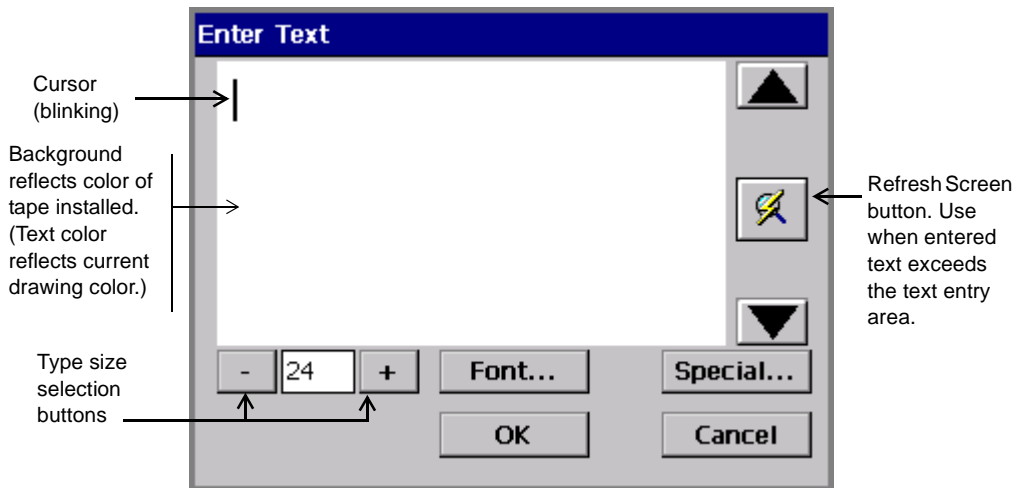

Figure 7-3. The Enter Text screen.
2. Press **Font** on the **Enter Text** screen, shown in Figure 7-3 on page 7-6.
1. On the **Enter Text** screen(Figure 7-3), choose **Special**.